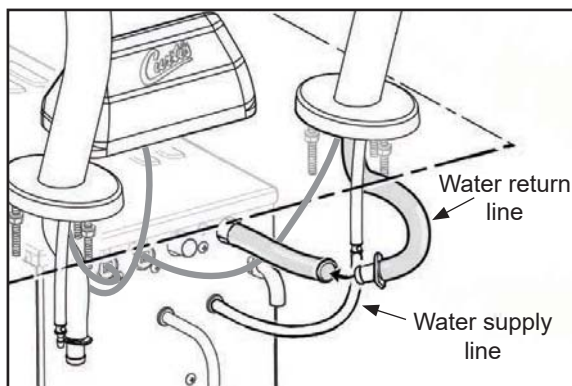

Figure 12 - Attaching the Water Hoses
- 22 Link the brew heads to the water tower by attaching the water return lines. These are the two larger diameter flexible silicone tubes that come from behind the water tower. The matching return lines from the spray head assemblies will have a straight fitting slipped into the end of the tube. Join the return line tubes together using this fitting. Make sure they are correctly oriented as shown in Figures 12 and 13.
- 23 Locate the two (2) 1/4 inch diameter water supply lines behind the water tower. Shorten them to minimize length when connected with the matching 1/4 inch tubing coming from the bottom of the brew head assemblies.
- 24 Insert the water supply tubes from the back of the water tower into the barbed connector on the supply line tube fittings from the brew head assemblies. See Figure 12.